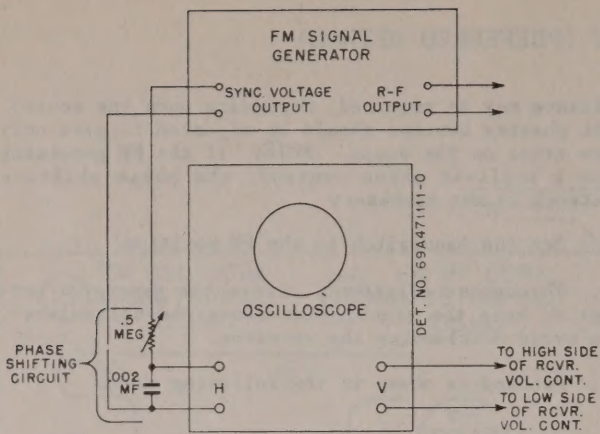

FIGURE 3.
3. Connect the FM signal generator sync voltage output terminals, through a phase shifting network, to the horizontal input terminals of the scope, as in Figure 3. (Other values of resistance and capa-